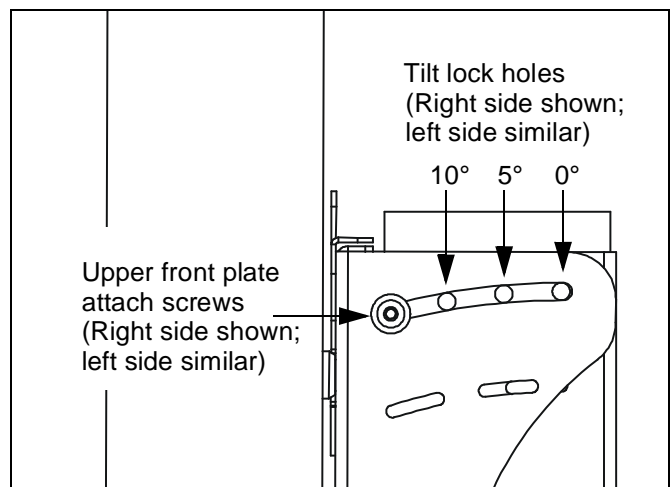
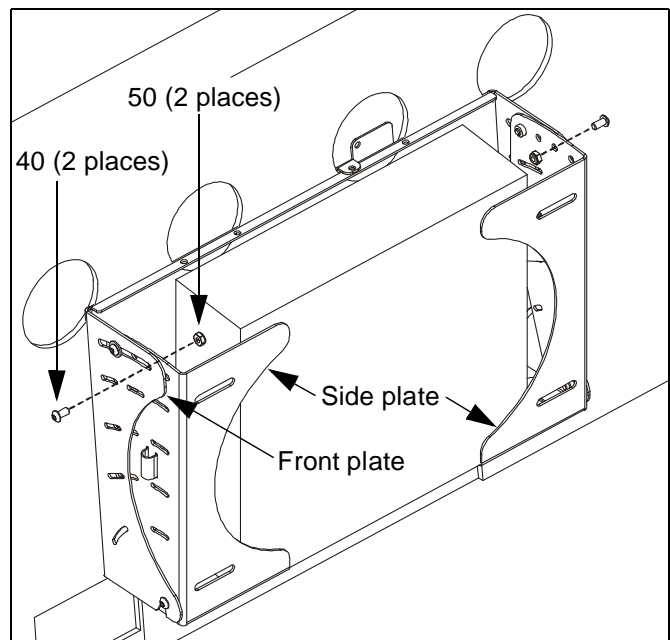

Figure 11: Tilt Lock Holes
Figure 12: Tilt Lock Screw Installation
- Using key (60), loosely install screws (40) through the slot in the front plate, through the applicable open tilt lock hole in the side plate, into nut (50) (See Figure 11)(See Figure 12).